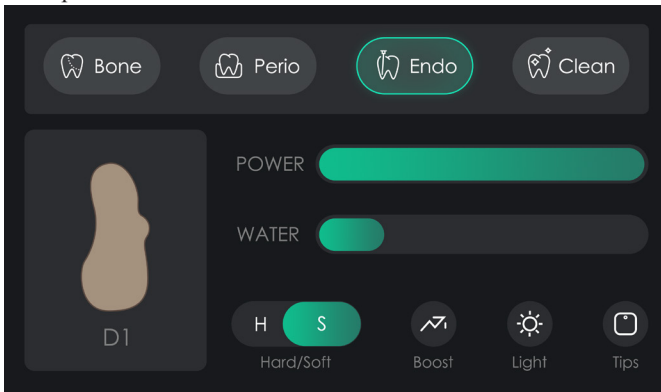

Fig.11
As shown in Fig. 11, when the mode name "Endo" is selected in the green frame, the device is in the Endo mode; in this mode, the function buttons are the same as the bone mode.
7.2.4 CLEAN function (Fig.11)